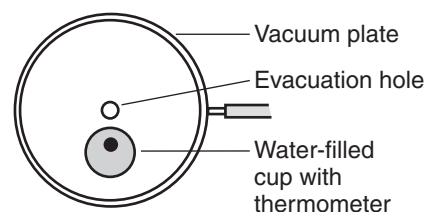

Figure 2.
2. Place the water-filled cup off-center on the vacuum plate so that the evacuation portal is not covered (see Figure 2).